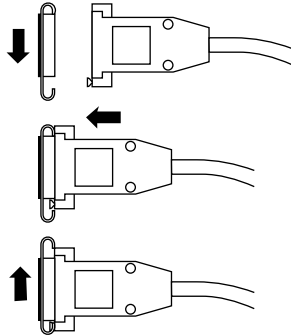

Figure 2-14 Connecting the Standard Ethernet Cable
- Make sure the sliding bracket on the Ethernet port on the system is pushed all the way down, as shown in Figure 2-14.